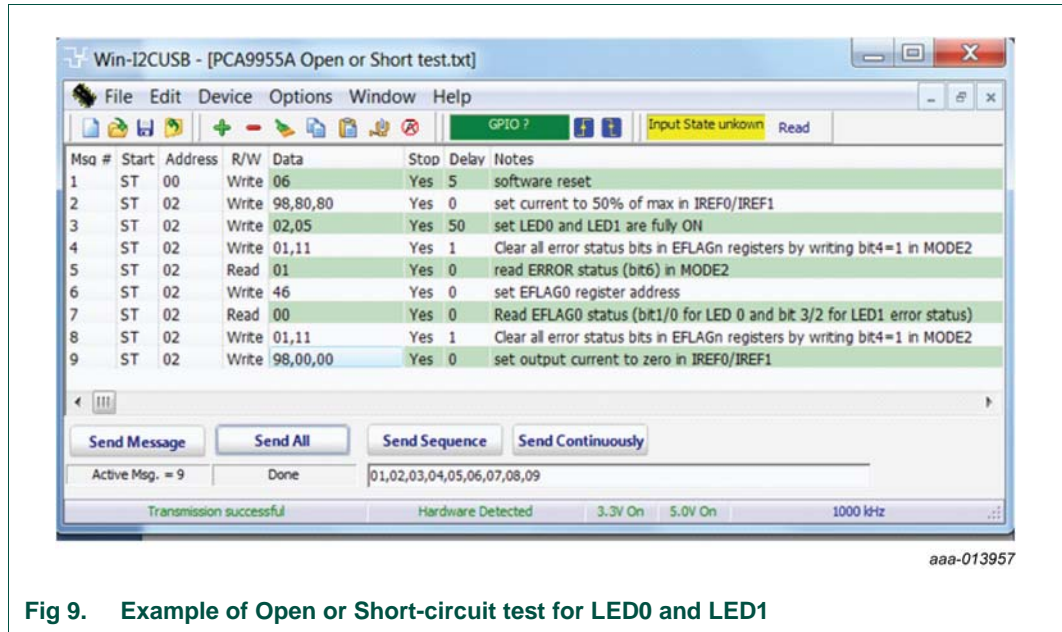

Fig 9. Example of Open or Short-circuit test for LED0 and LED1
2. After opening the 'PCA9955A/B Open or Short test' text file, the Win-I2CUSB GUI in Expert mode screen will be displayed as shown in Figure 9.